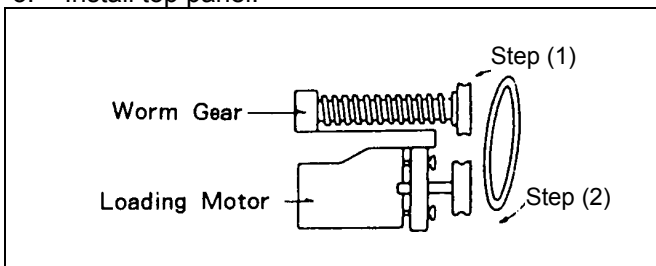

Figure 7-13-2 Loading Motor Belt Installation
1. Put new loading belt onto loading motor first as shown in Figure 7-13-2.